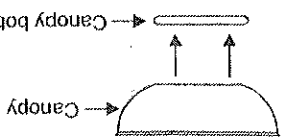

Figure 8
1. Remove the decorative canopy bottom cover from the canopy by depressing the three studs (Fig. 8)